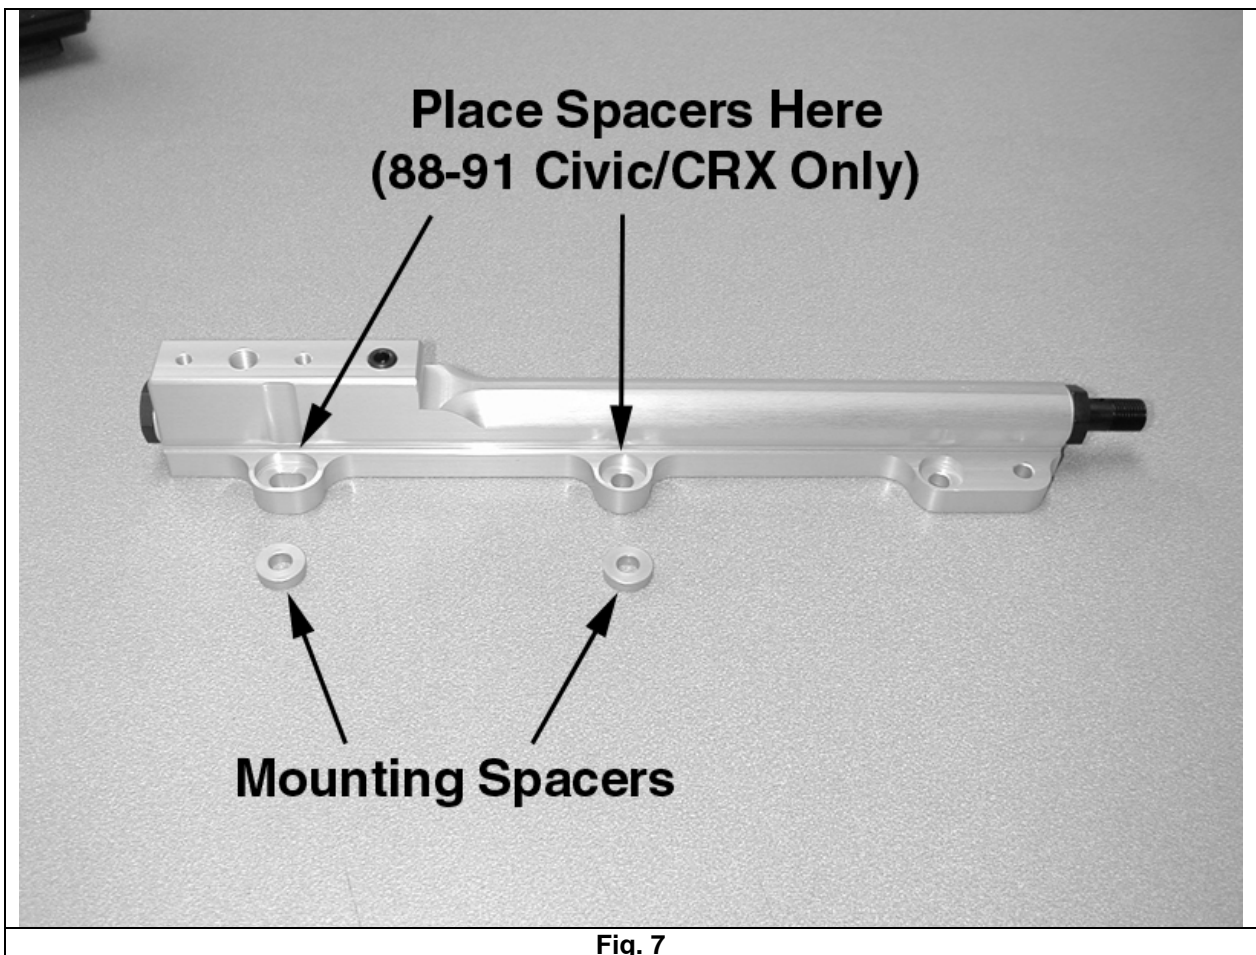

Fig. 7
- i) If you are installing the fuel rail on an 88-91 Civic/CRX you will need to install 2 mounting spacers into the machined pockets on the mounting flange of the rail. **(Fig. 7)**